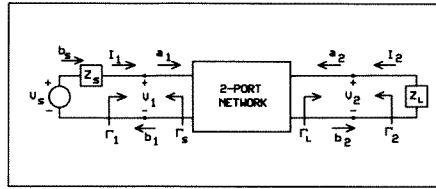

Figure 5. The complete circuit for which the gain is to be calculated.
We now want to begin developing equations for gain. There are different gains that can be defined but the basic circuit is shown in Figure 5.
If we were to derive a similar equation for the power from port 2 to the load, the equation, from the circuit in Figure 5, would be written,
where P_{del} is the power delivered to the load and P_{avs} is the power available from the source. P_{avs} is calculated as if the source was connected to a conjugately matched load. If a source is conjugately matched to a load, it can be shown that the reflection coefficient looking from the source to the load is the conjugate of the reflection coefficient looking from the load to the source. So, for a conjugately matched load, using the notation of Figure 5, $\Gamma_1 = \Gamma_S^*$.
From Figure 5 we can write,
2) Calculation of P_{del} : Looking at the load end of the circuit in Figure 5, we can write,